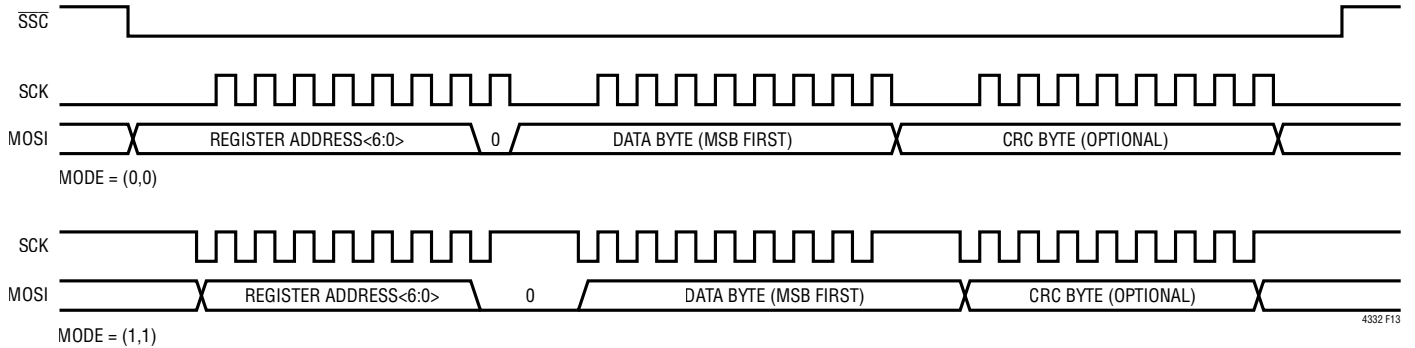
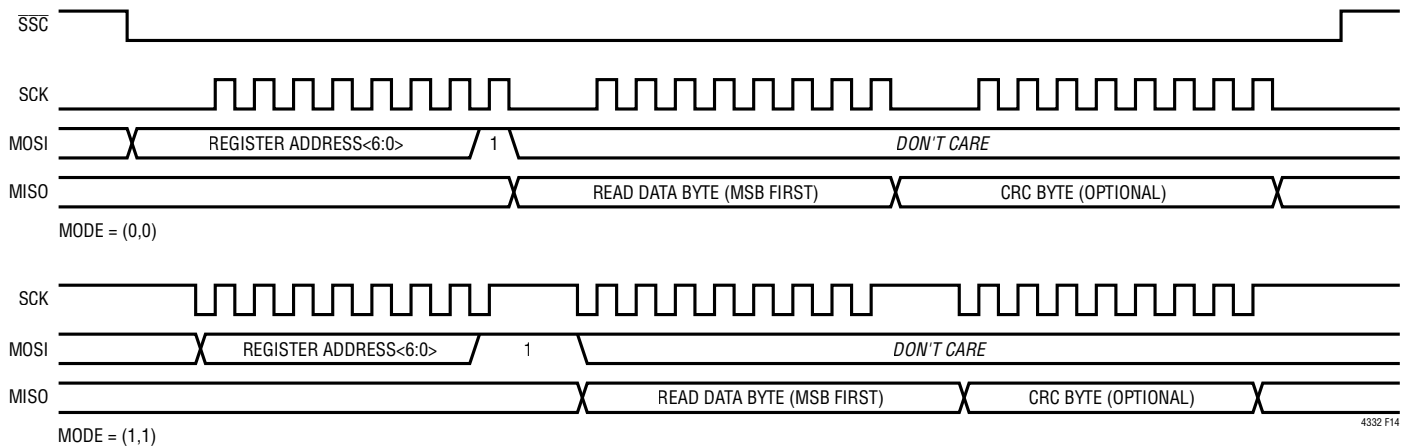

Figure 13. Control Interface Write Transfer
Figure 14. Control Interface Read Transfer
The LTC4332 provides a separate slave select pin, $\overline{\text{SSC}}$, that allows a user to access the internal control interface for configuration and monitoring. The interface supports SPI modes (0,0) and (1,1) only. Read and write accesses are shown in Figure 13 and Figure 14. The bit order is MSB first. The first byte includes the register address in bits <7-1> and a read(1)/write(0) bit in the LSB. Only single data byte accesses per transfer are supported. Programmed values are retained while $V_{\text{CC}} \geq 3.0\text{V}$.
- IEC 61000-4-5 Surge Level 4: ± 5 kV (line to GND, line to line, 8/20 μ s waveform, each line coupled to generator through 80 Ω resistor per Figure 14 of the standard)